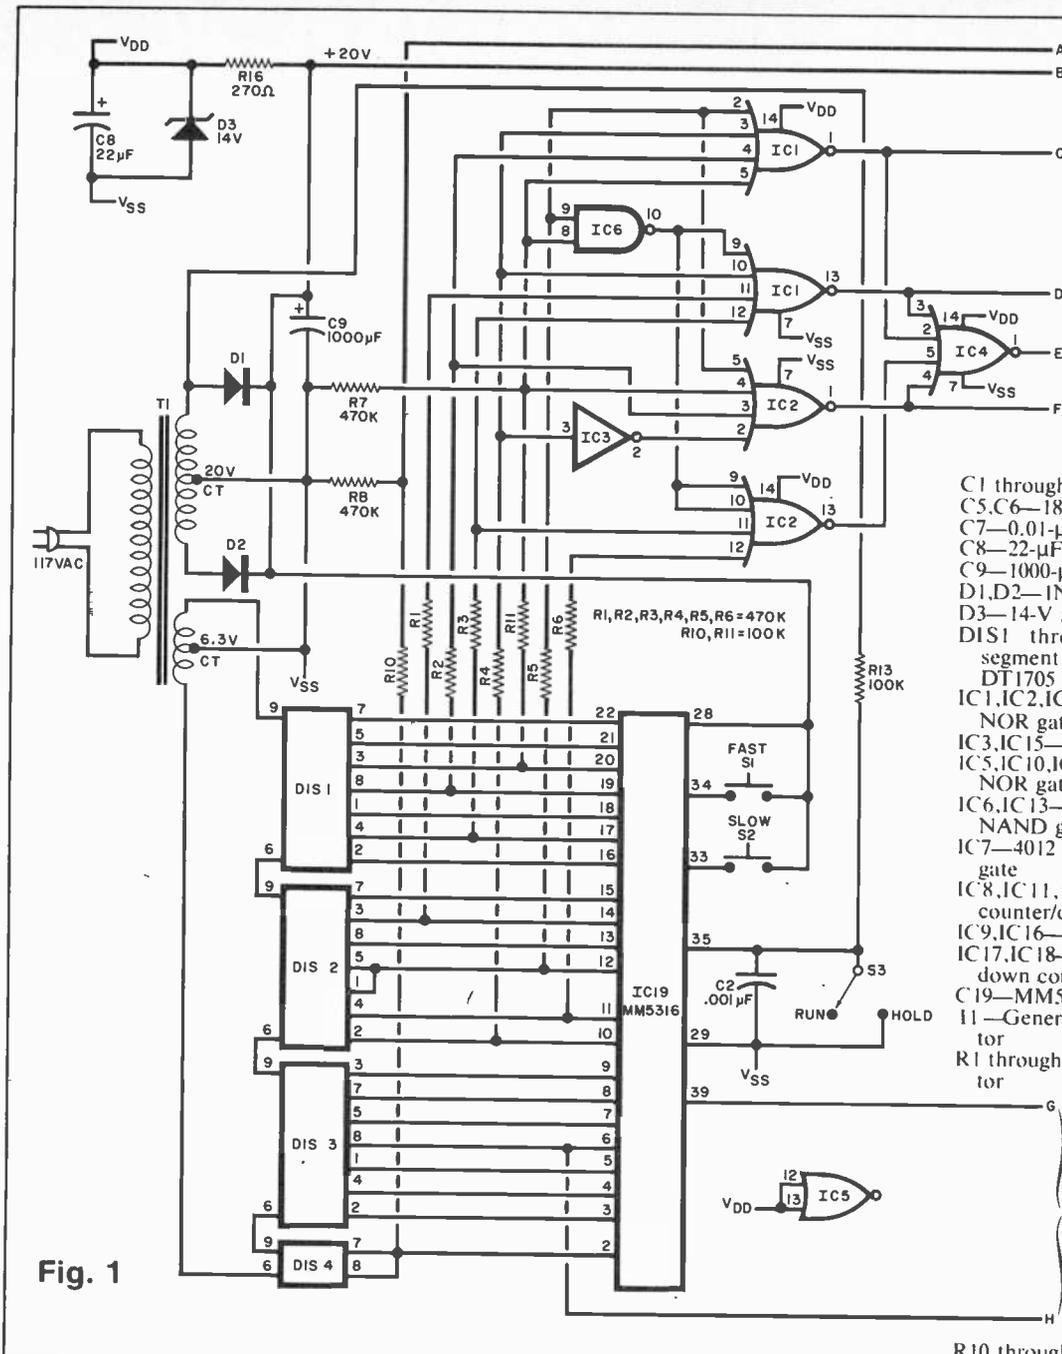

Fig. 1 (left),
**How It Works.** The complete circuit of the clock is shown in three parts in Figs. 1 to 3. The clock element is IC19 an MM5316 IC that drives conventional fluorescent readouts DIS1 through DIS4. This clock IC was selected because it has continuous outputs that minimize the chime circuit interface requirements. If you select a clock IC that has multiplexed outputs, additional circuits will be required. The fluorescent readouts are used because they can be driven directly by the MM5316 and they require very little operating power.
In Fig. 1, IC1 and IC2 decode the conditions of the 15, 30, 45, and 00 minutes. The outputs are OR'd by part of IC4, whose output then initiates a one-shot circuit formed by C1, R12, and part of IC3 (Fig. 2). The pulse from this one-shot sets a flip-flop formed by two elements of IC5, which in turn, activates the tone output through part of IC9. The one-shot pulse also resets the remainder of the chime circuits.